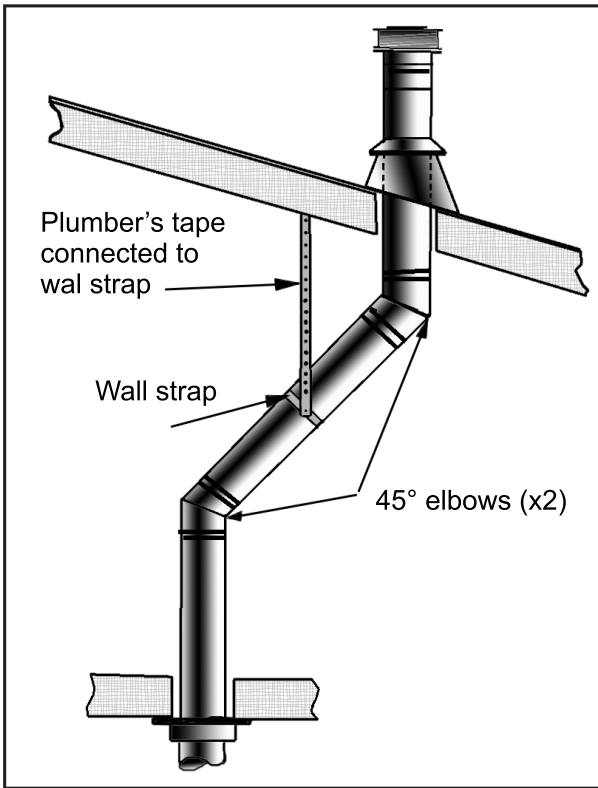
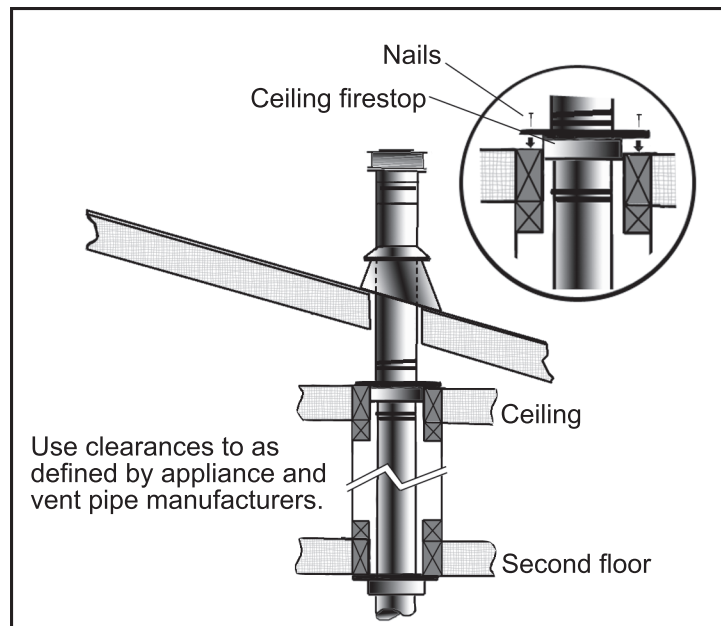

Figure 37: Use of Wall Straps.
Figure 38: Multi-Story Vent Pipe Installation.
- (1) If an offset is necessary in the attic to avoid obstructions, it is important to support the vent pipe every 3 feet (914 mm), to avoid excessive stress on the elbows, and possible separation. Wall straps are available for this purpose (see Figure 37).
- (2) When ever possible, use 45° degree elbows instead of 90° degree elbows. The 45° degree elbow offers less restriction to the flow of flue gases and intake air.
- (3) For multi story installations; a ceiling firestop is required at the second floor, and any subsequent floors (see Figure 38). The opening should be framed to 10" (254 mm) x 10" (254 mm) inside dimensions, in the same manner as shown in Figure 28.
- (4) Any occupied areas above the first floor, including closets and storage spaces, which the vertical vent passes through, must be enclosed. The enclosure may be framed and sheet-rocked with standard building materials. However consult the appliance manufactures installation instructions for the minimum allowable clearance between the outside of the vent pipe, and the combustible surfaces of the enclosure. Do not fill any required air spaces with insulation.